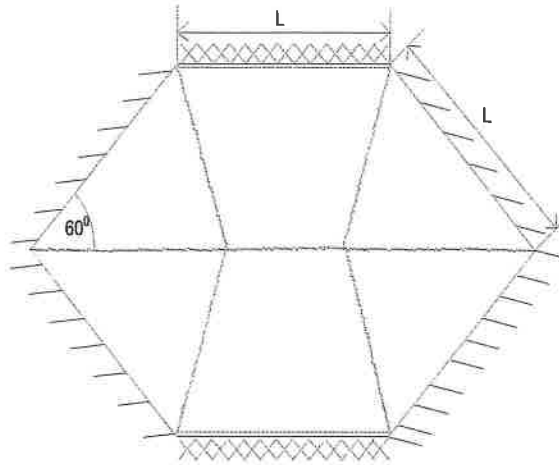

Figure Q1
c) Isotropically reinforced hexagonal slab is simply supported along four edges while fixed supported along two edges as shown in Figure Q1. The side length of the hexagonal slab is L and overall perimeter length of the slab is , therefore, is ' $6L$ '. The slab carries a uniformly distributed load of intensity ' p ' per unit area.
Determine the corresponding collapse load for the yield line pattern given in Figure Q1, assuming the yield moment per unit length of both positive yield lines and negative yield lines as ' m '.